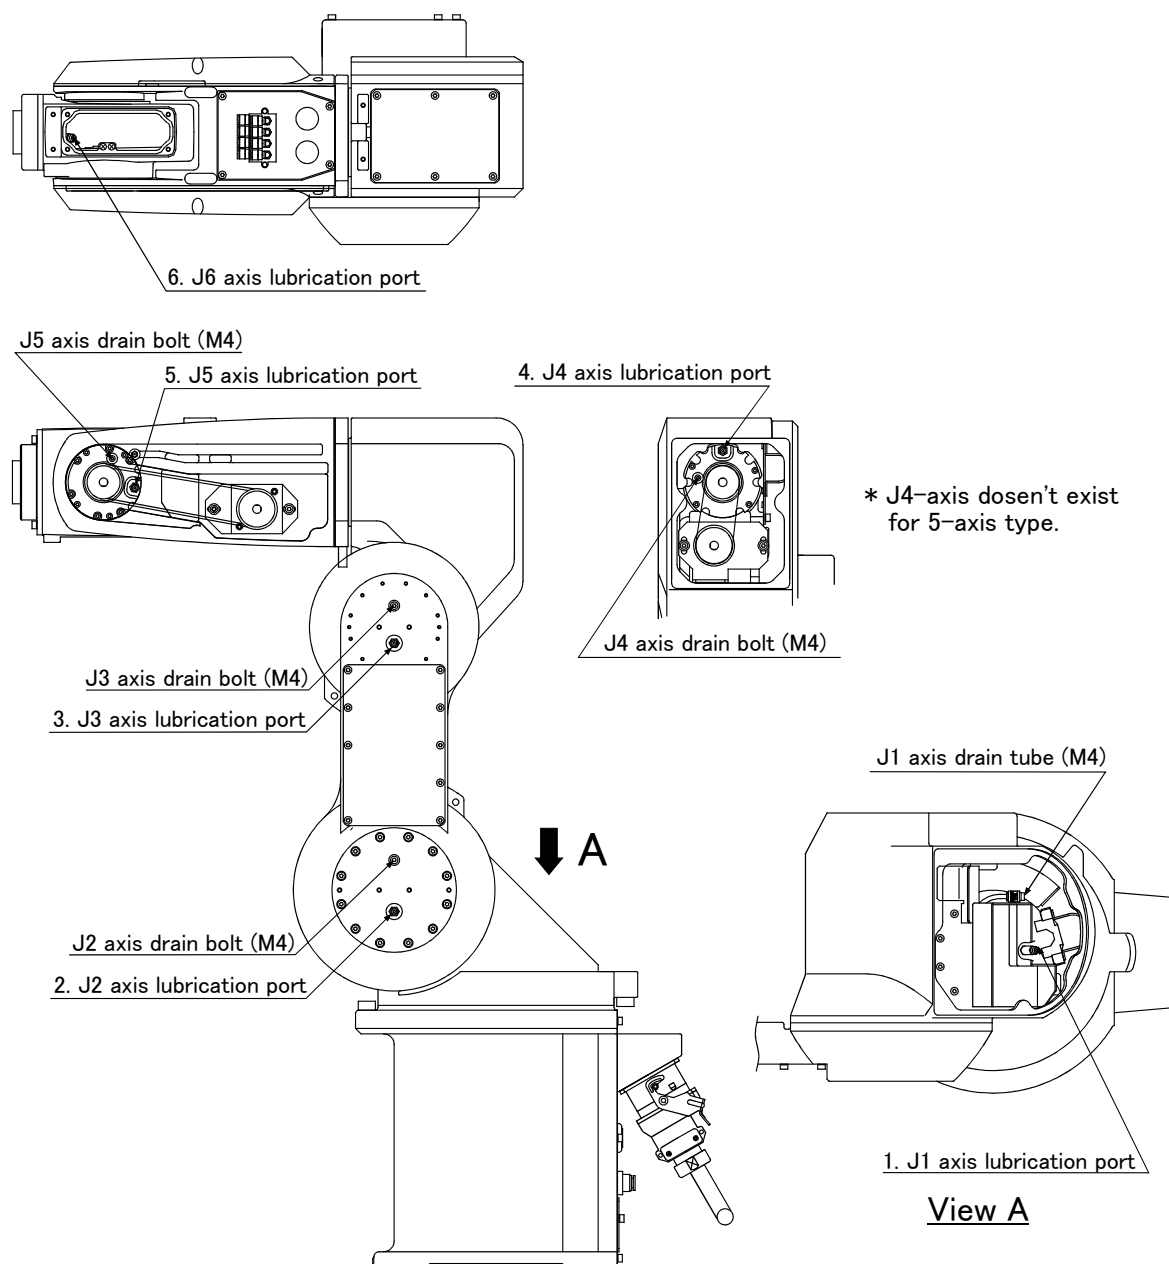

Fig.5-14 : Lubrication positions
- The numbers in the Table 5-6 correspond to the supply positions in Fig. 5-14.
(2) Lubrication method
- 1) Set the robot to the posture shown in Fig. 5-14.